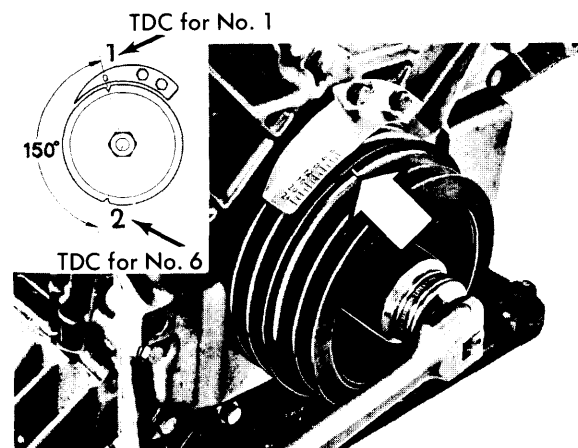
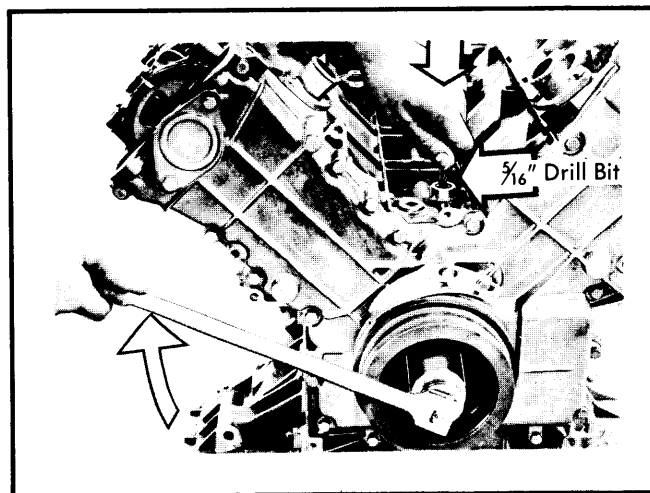

Fig. 5 Adjusting Crankshaft to Firing Position for No. 1 Cylinder
Fig. 12 Locating Top Dead Center for No. 1 Cylinder
1) Rotate crankshaft to firing position for No. 1 cylinder. See Fig.5. In this position, both rocker arms should have clearance. Check and adjust the following cylinders for clearance: Intake
1) Rotate crankshaft so that mark No. 1 (See Fig. 5) is at 20° mark on ignition timing plate. Remove plug and insert $\frac{3}{16}$ " drill bit or similar rod into hole and against crankshaft counterweight, See Fig. 12. Rotate crankshaft in direction of rotation until drill bit can be pressed into recess in counterweight (TDC for No. 1 cylinder).